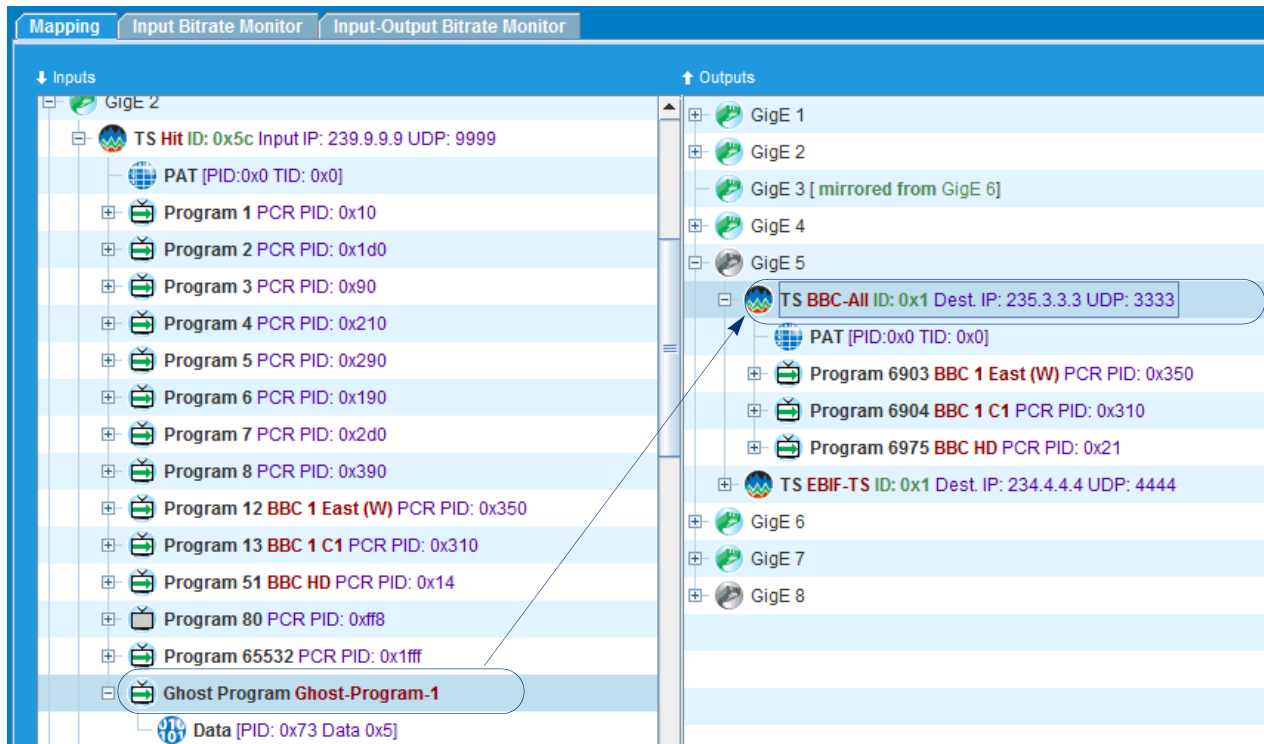

Figure 171. Ghost Program With Unreferenced PID.
1. Start by creating a ghost program with a data ES, and mapping the unreferenced PID from a program input such as that shown in Figure 171.